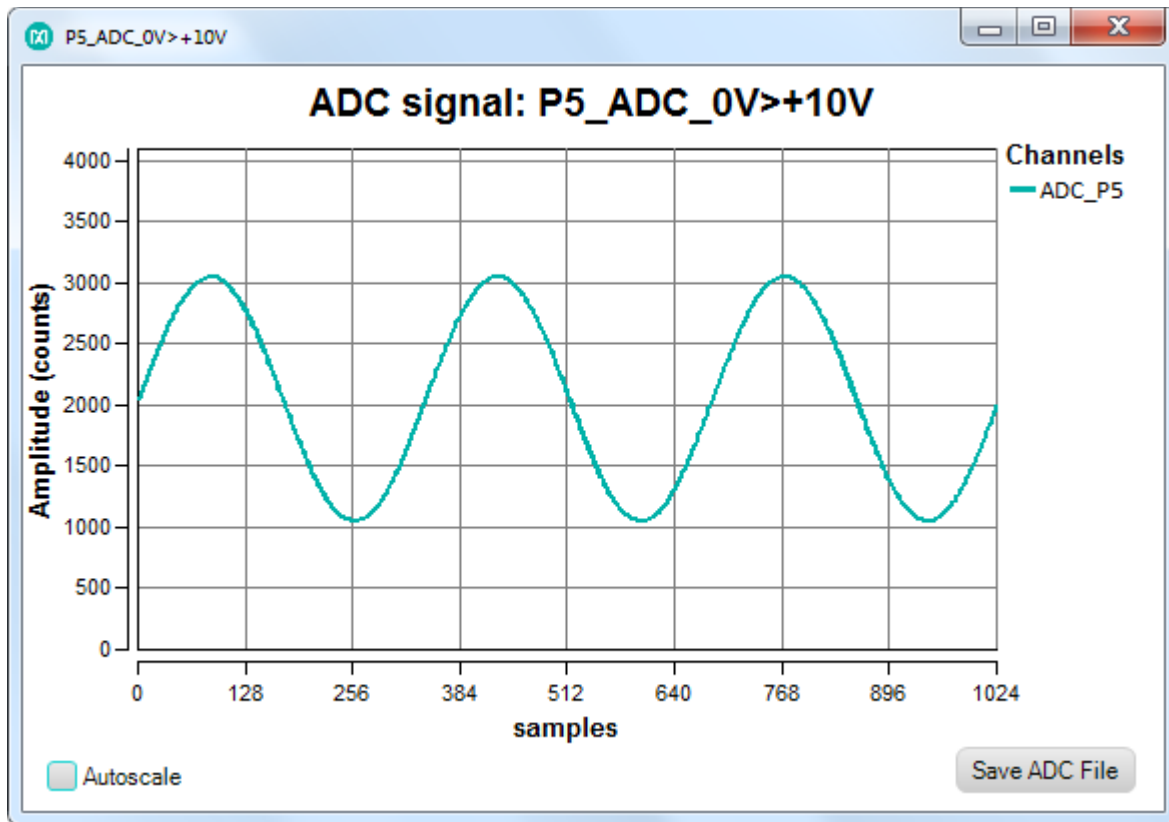

Figure 27. Sine wave with $170\mu\text{s}$ sample delay.
5. After adding 170 μ s sample delay, the ADC shows the same waveform as we apply to the DAC. See **Figure 27**.